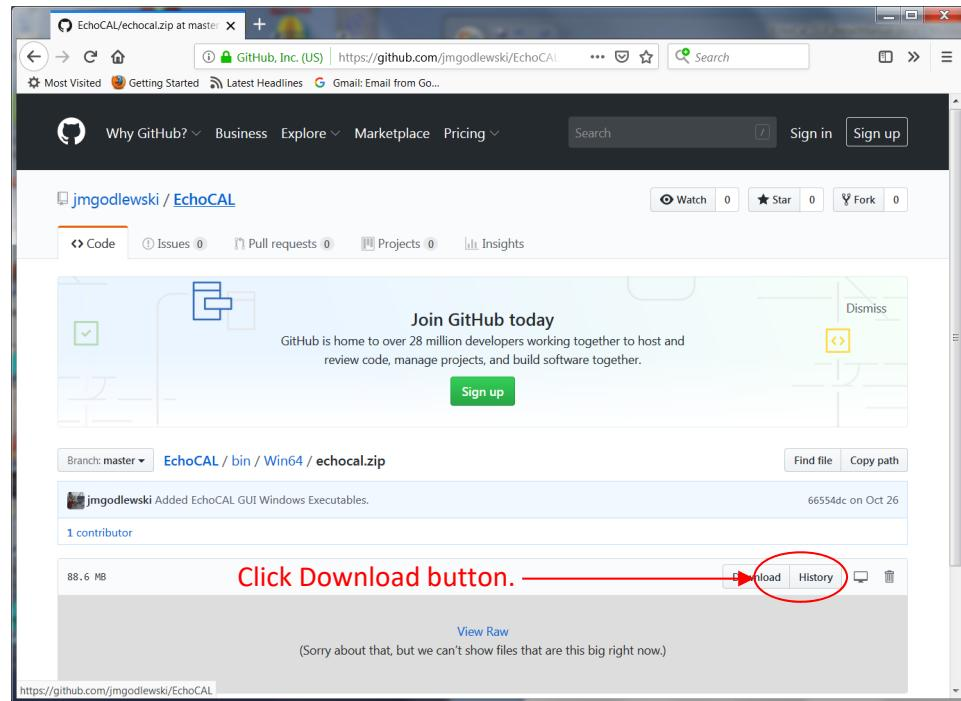

Figure 21: Download "echocal.zip" file from GitHub.
- c. Click on the “echocal.zip” file in the web browser’s window. A new page will open which will allow you to download the “echocal.zip” file. Select the **Download** button to download the ZIP file to your PC. (Figure 21)